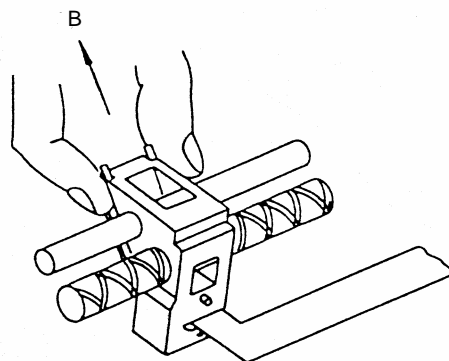

Figure 8-14 Pulling out the Head Unit
- (4) Holding both sides of the head unit with your fingers, pull out the head unit in the direction shown by arrow B (see Figure 8-14).